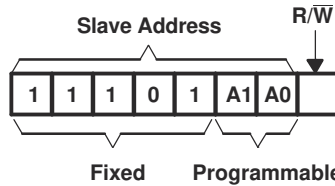
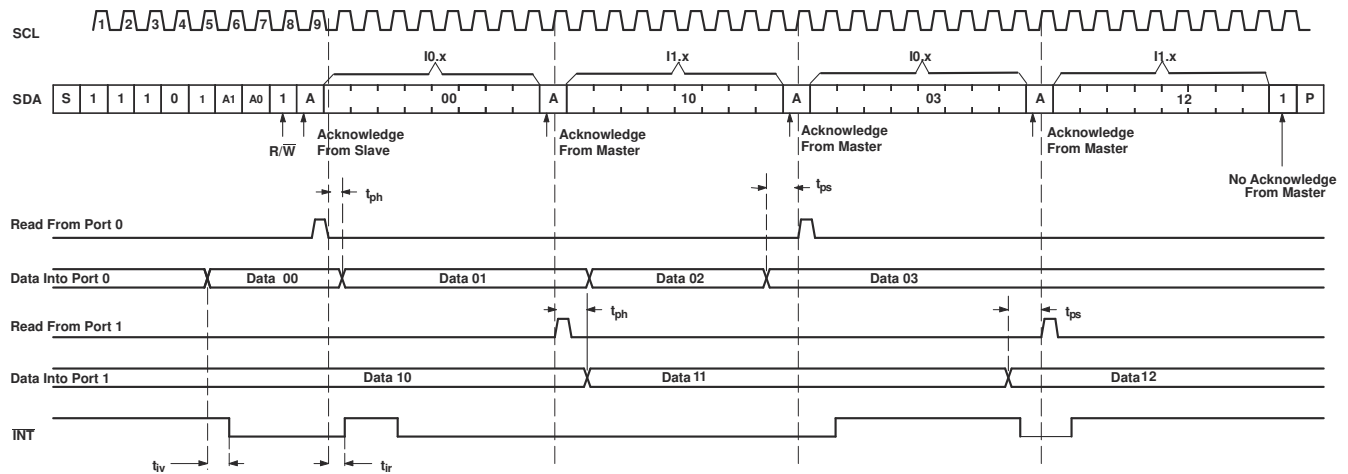

Figure 8-6. Pca9539 Address
**Figure 8-10. Read From Register**
Figure 8-6 shows the address byte of the PCA9539.
Data is transmitted to the PCA9539 by sending the device address and setting the least-significant bit to a logic 0 (see Figure 8-6 for device address). The command byte is sent after the address and determines which register receives the data that follows the command byte.
The bus master first must send the PCA9539 address with the least-significant bit set to a logic 0 (see Figure 8-6 for device address). The command byte is sent after the address and determines which register is accessed. After a restart, the device address is sent again, but this time, the least-significant bit is set to a logic 1. Data from the register defined by the command byte then is sent by the PCA9539 (see Figure 8-10 through Figure 8-12).
- B. This figure eliminates the command byte transfer, a restart, and slave address call between the initial slave address call and actual data transfer from the P port (see Figure 8-10 for these details).